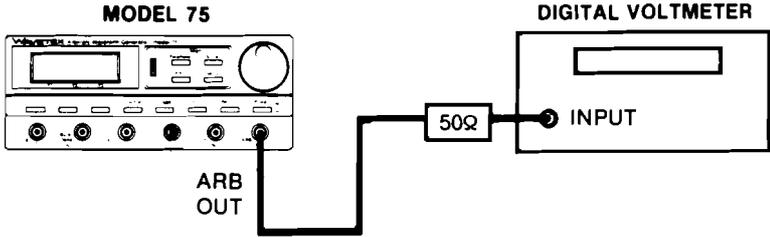

Figure 5-1. Calibration Equipment Connection
1. Interconnect the Model 75 and test equipment as shown in figure 5-1.